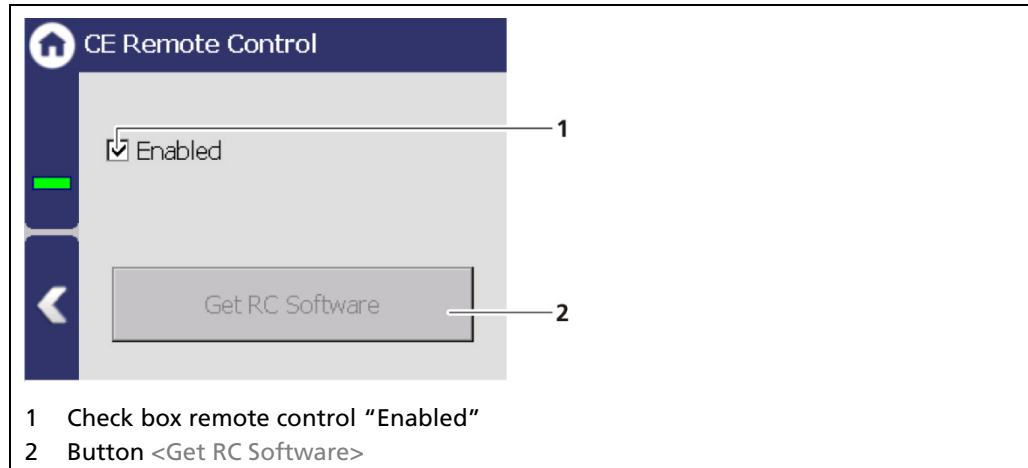

Fig. 47 Remote Control
By activating (Fig. 47, item 1) the CE Remote Control, the unit can be operated via the network connection. The software of the remote control (RC software) is stored on the device and can be copied to a USB storage device.
- ▶ The USB storage device is recognized by the system after a few seconds and the button <Get RC software> (Fig. 47, item 2) can be clicked.
2. Click on the button <Get RC software> (Fig. 47, item 2).
In order for the Remote Control to function, the selection check mark in the menu "CE Remote Control" must be set to "Active" (Fig. 47, item 1).